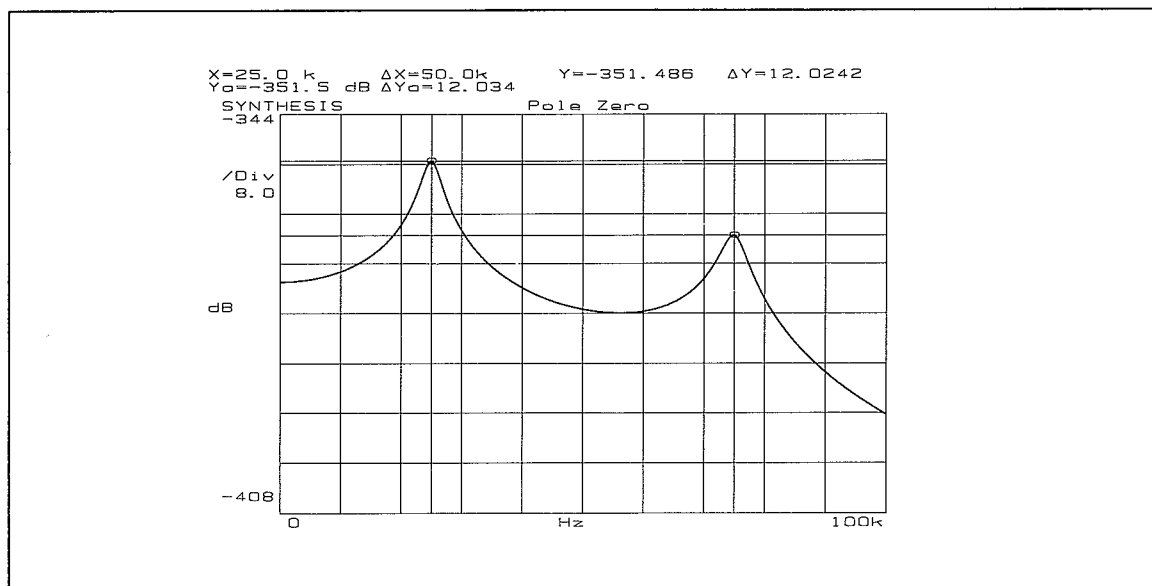

Figure 2-1 (OV) Marker Positions
3. Refer to figure 2-1 for the position of the X and Y marker readings.